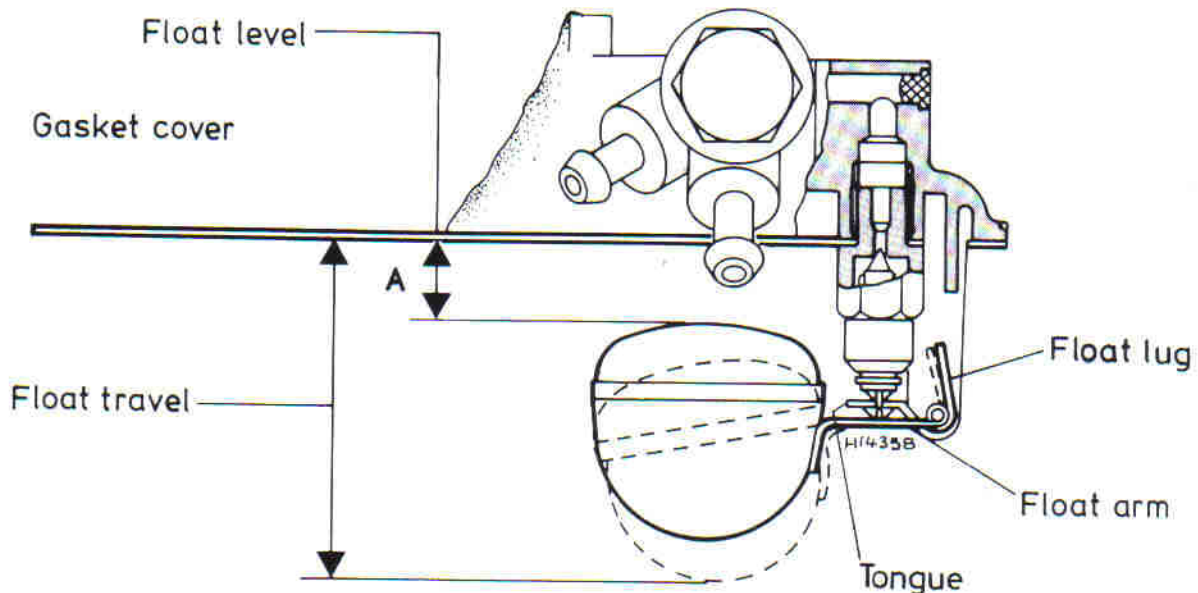

Fig. 3.3 Float setting diagram for IPM 32 MG carburettor (Sec 11)
- 11 Measure the float height which should be as specified (see Fig. 3.3).